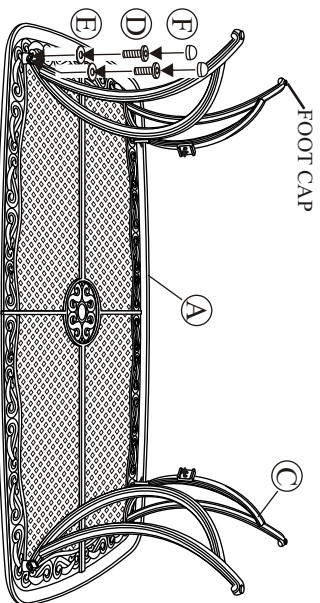

Fig. 1
Step 2: Place the table top upside down on a flat, non-abrasive surface. Attach a table leg to the table top by using the bolts and washers as shown in Fig.1. Guide bolts through holes in the table legs and into the pre-drilled holes in the table top. **Hand tighten 2-3 turns only.** Repeat for the other three legs.
Place the table top upside down on a flat, non-abrasive surface. Attach the table leg to the table top by using the bolts and washers as shown in Fig. 1. Guide the bolts through the holes in the table leg, into the pre-drilled holes in the table top. **Hand tighten only.** Repeat for the other three legs.